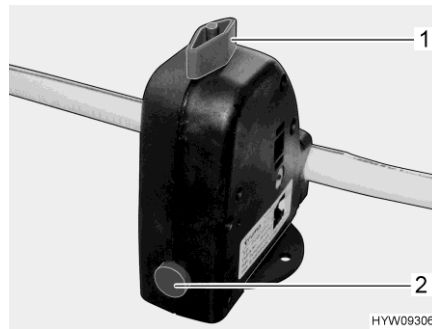

Fig. 214 Safety/drainage valve (boiler)
The boiler is equipped with a safety/drainage valve (Fig. 214). The safety/drainage valve prevents water in the boiler from freezing, when there is frost and the heater is not switched on.
- Close the safety/drainage valve. Turn the knob (Fig. 214,1) perpendicular to the safety/drainage valve and push the push button (Fig. 214,2) in.
- Open the safety/drainage valve. To do this turn the knob (Fig. 214,1) parallel to the safety/drainage valve. The push button (Fig. 214,2) jumps out. The boiler is drained to the outside by the safety/drainage valve.